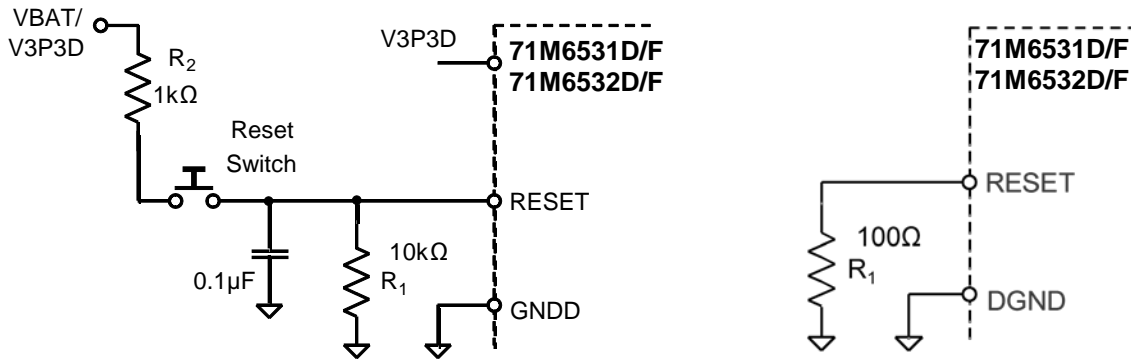

Figure 38: External Components for the RESET Pin: Push-button (Left), Production Circuit (Right)
Even though a functional meter will not necessarily need a reset switch, it is useful to have a reset push-button for prototyping as shown in Figure 38, left side. The RESET signal may be sourced from V3P3SYS (functional in MISSION mode only), V3P3D (MISSION and BROWNOUT modes), or VBAT (all modes, if a battery is present), or from a combination of these sources, depending on the application.
For a production meter, the RESET pin should be protected by the external components shown in Figure 38, right side. R1 should be in the range of 100 Ω and mounted as closely as possible to the IC.
- Since the 71M6531 generates its own power-on reset, a reset button or circuitry, as shown in Figure 38, is only required for test units and prototypes.